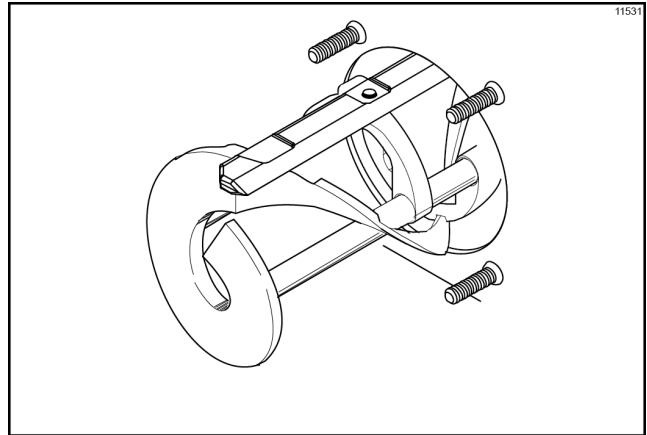

Figure-132
5. Holding the rear blade on the beater, slide it into the freezing cylinder halfway. Install the front scraper blade over the front holding pin. (See Figure-132.)